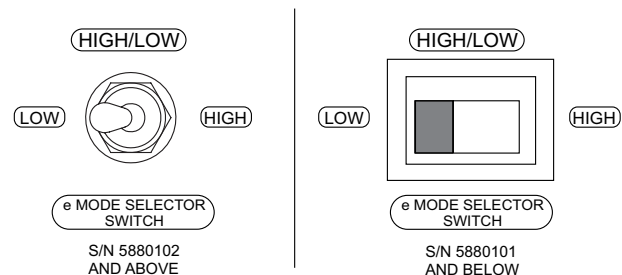

Figure 36. E-Mode Selector Switch (CC Mode)
- Place e-Mode selector switch (Figure 36) in the desired position as defined by Table 21. This switch is a 3-position **toggle** switch (S/N 5880102 and above) or 3-position **rocker** switch (S/N 5880101 and below).